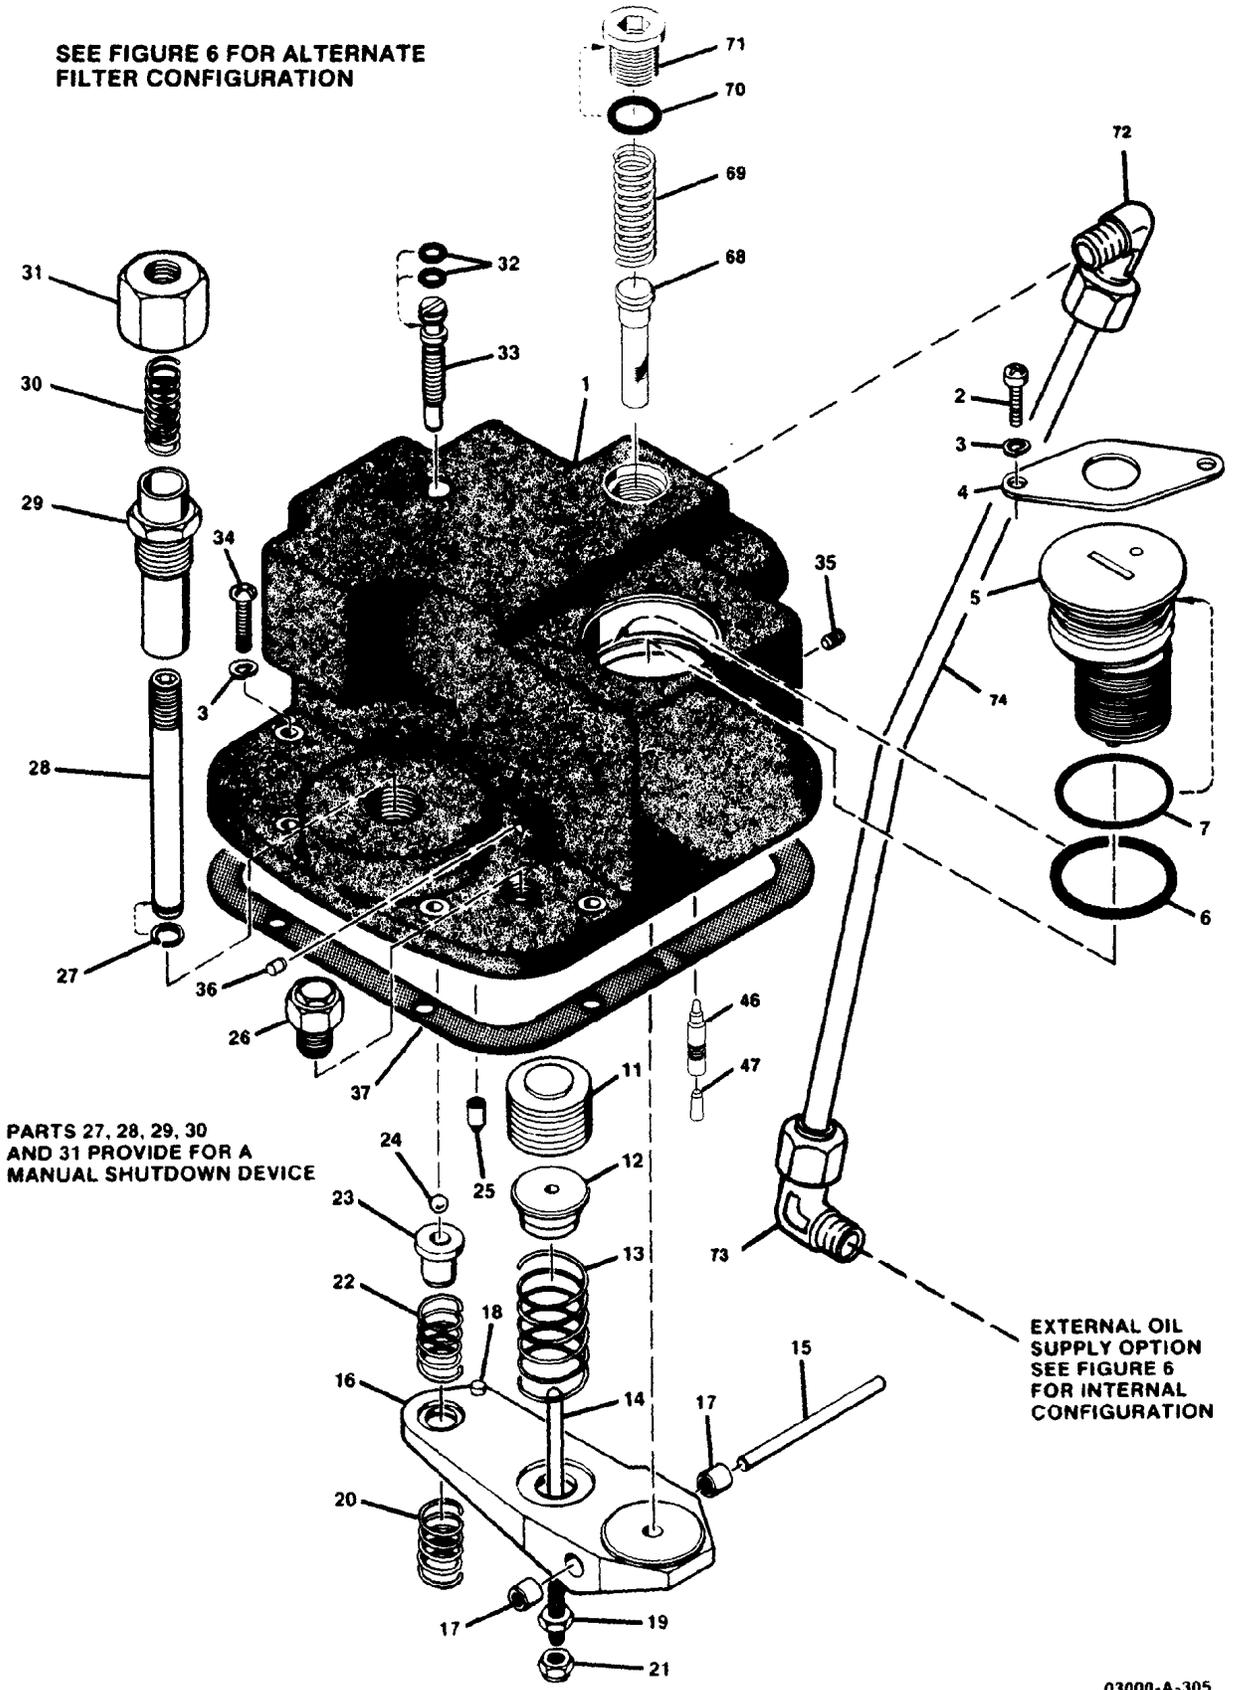

Figure 4. Parts of UG-8 Pneumatic Speed Adjustment with Manual Shutdown
- The eccentric bellows (5 – Figure 4) changes the range.
- Screw (33 – Figure 4) is used to change the speed setting level.
4. Install the speed adjusting device on the governor. Rod (14) should enter the hole in lever (16) below the piston. (Figure 4).
6. Tighten screws (34).
9. Adjust screw (33) until the specified speed, at minimum air signal, is reached. Turn the screw clockwise to decrease the speed and counterclockwise to increase the speed.
Parts List For Figure 4
SEE FIGURE 4 FOR PREFERRED FILTER CONFIGURATION